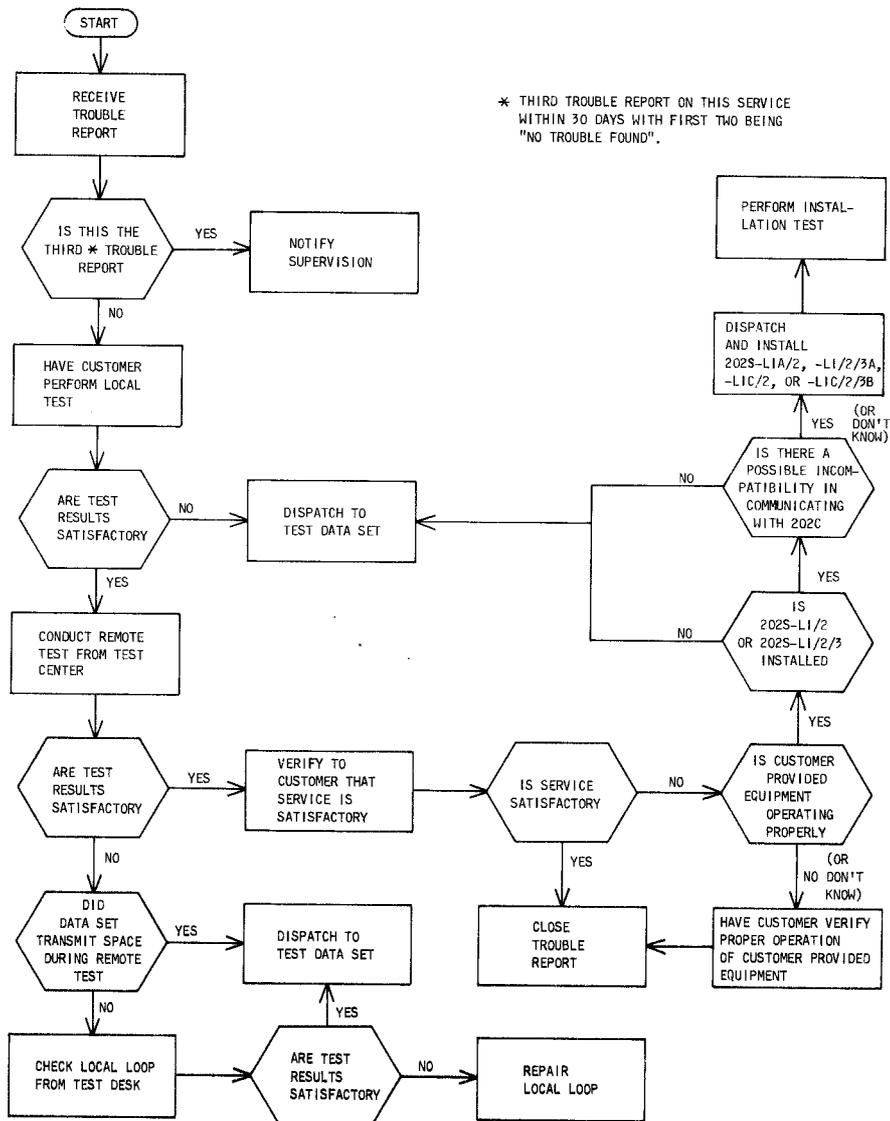

Fig. 5—Maintenance Flowchart (Before Dispatch)
4.01 This part provides the sequence in which tests are to be performed before and during a trouble visit. The procedure provides a method of isolating a trouble to either the data set or the transmission facility. Refer to Fig. 5 and 6 for the sequence of tests.